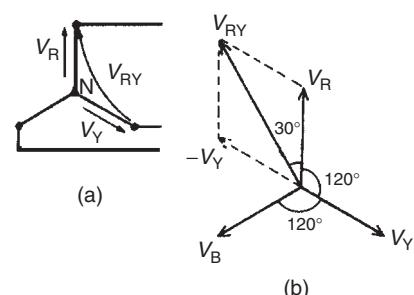

Figure 20.4
- (vi) The line voltage, V_{RY} , shown in Fig. 20.4(a) is given by $V_{RY} = V_R - V_Y$ (V_Y is negative since it is in the opposite direction to V_{RY}). In the phasor diagram of Fig. 20.4(b), phasor V_Y is reversed (shown by the broken line) and then added phasorially to V_R (i.e. $V_{RY} = V_R + (-V_Y)$). By trigonometry, or by measurement, $V_{RY} = \sqrt{3} V_p$, i.e. for a balanced star connection: